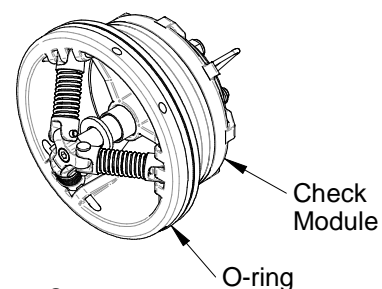

Figure 3
3. Remove the check-retaining spacer from the body. Pull the check module straight out of the body. The check module is sealed in place with an o-ring. See Figure 3.